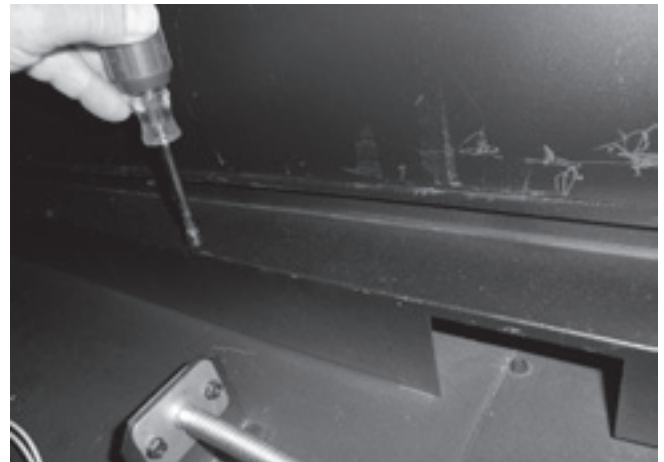

Figure 11
10. Using a 5/16" Hex drive socket, remove the two screws that retain the rear baffle, and remove the baffle. **See Figure 11.**